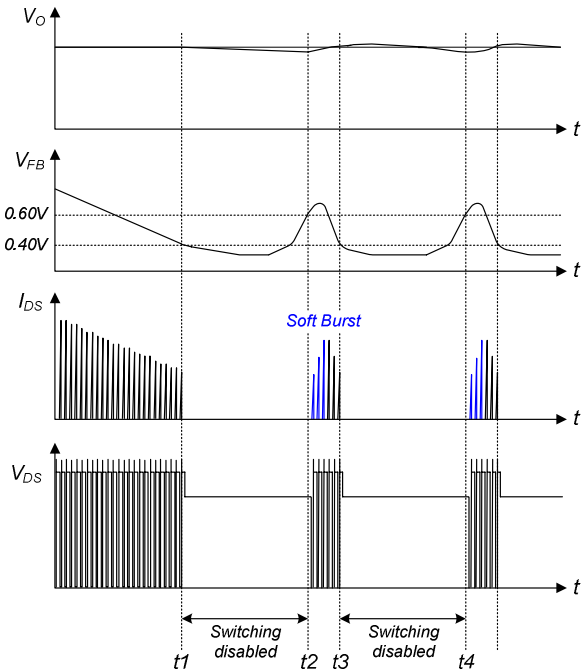

**Figure 22. Output-Short Protection**
**4.3. Output-Short Protection (OSP):** If the output is shorted, steep current with extremely high di/dt can flow through the SenseFET during the minimum turn-on time. Such a steep current brings high-voltage stress on the drain of the SenseFET when turned off. To protect the device from this abnormal condition, OSP is included. It is comprised of detecting  $V_{FB}$  and SenseFET turn-on time. When the  $V_{FB}$  is higher than 2V and the SenseFET turn-on time is lower than  $1.2\mu s$ , the FSGM0765R recognizes this condition as an abnormal error and shuts down PWM switching until  $V_{CC}$  reaches  $V_{START}$  again. An abnormal condition output short is shown in Figure 22.